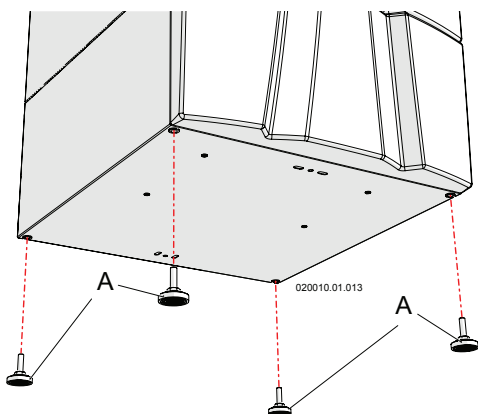

Figure 6-2 - Feet to make it level
- ☞ install the adjustable feet "A" to make the boiler level as shown in figure 6-2.